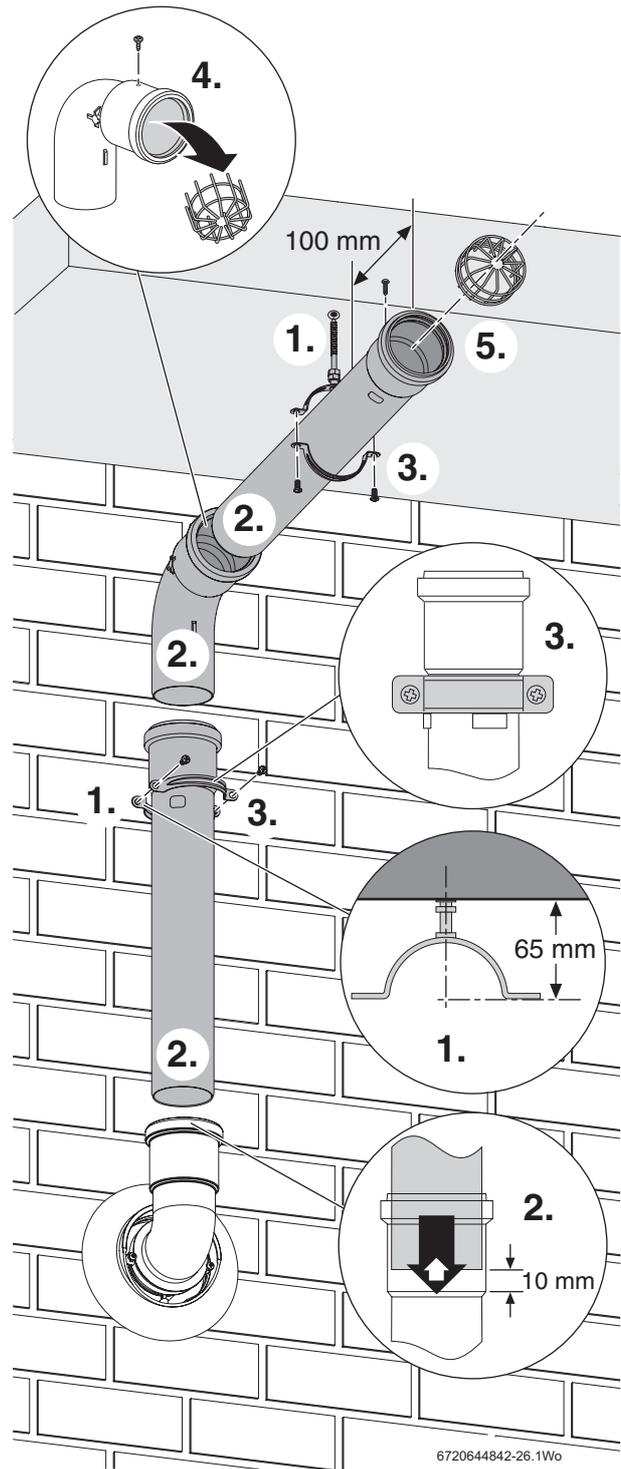

Fig. 45 Under balcony installation
1. Refer to figure 45 and mark the position for the wall clamp that coincides with the extension tube just below the top fitting. Drill a suitable hole and fit the wall plug. Screw the clamp into the wall plug as shown.